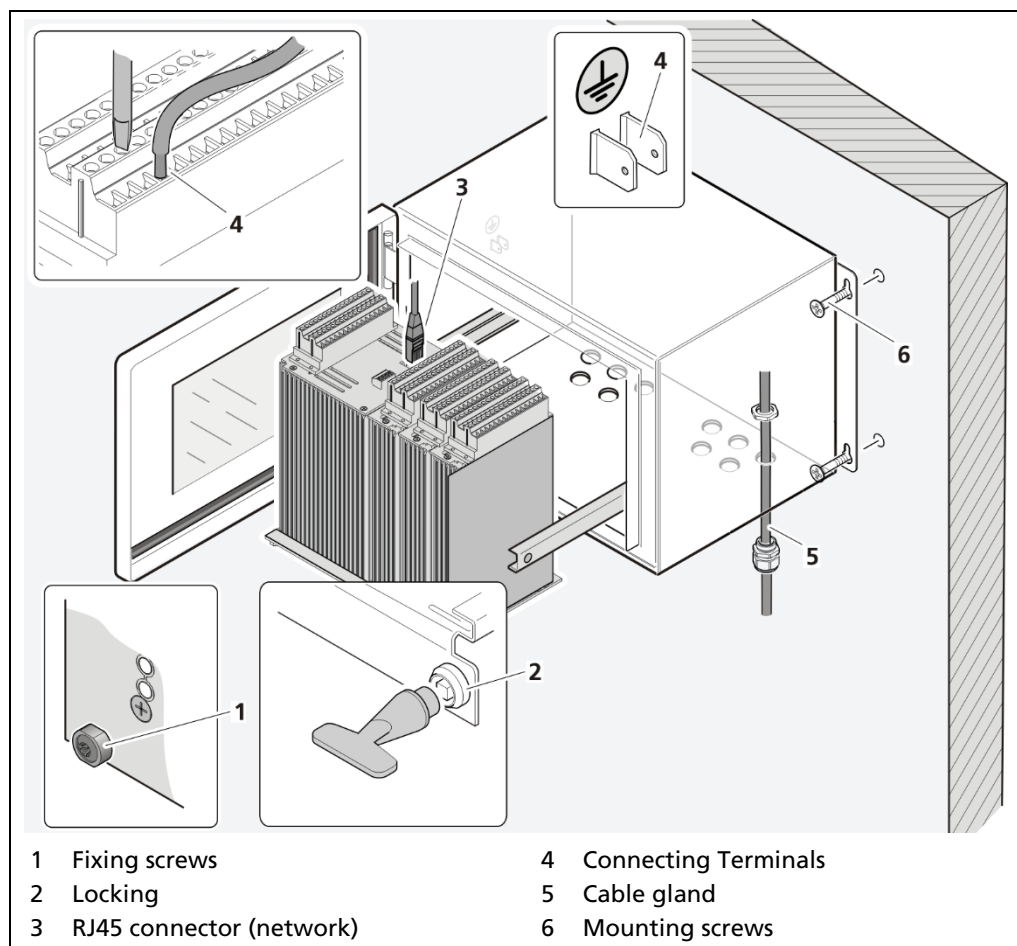

Fig. 132 Decommissioning wall housing
1. Make sure that the locking bolts (Fig. 132, item 1) of all modules are tightened in order to prevent slipping.
2. Loosen the lock (Fig. 132, item 2) using the supplied square key and pull the subrack out.
5. Remove the network plug (Fig. 132, item 3).
6. Remove all lines (Fig. 132, item 4).
7. Loosen the cable gland (Fig. 132, item 5) on the bottom side of the wall housing and pull all cables from the wall housing.
9. Loosen the mounting screws (Fig. 132, item 6) and remove the wall housing.